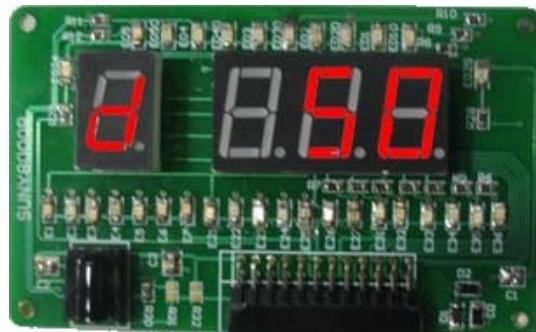

Fig. 5
- Press [CON] button to accept the parameters, panel shows Fig.5.